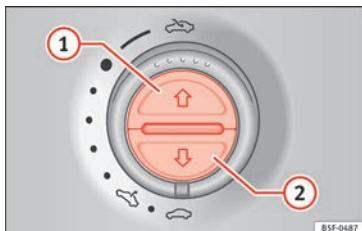

Fig. 141 On the interior roof lining: switches for the sun blind.
Opening completely (automatic function)	Press button » Fig. 141 ① briefly.
- The switch should be in the “closed position” » » 📖 page 18 ①.
- *Panoramic sliding sunroof*: Within five seconds of triggering the anti-trap function, pull the control all the way back » » 📖 page 18 (arrow ⑤) until the panoramic sliding sunroof closes fully.
- *Sun blind*: Within five seconds of triggering the anti-trap function, press button » » Fig. 141 ② until the sun blind closes fully.